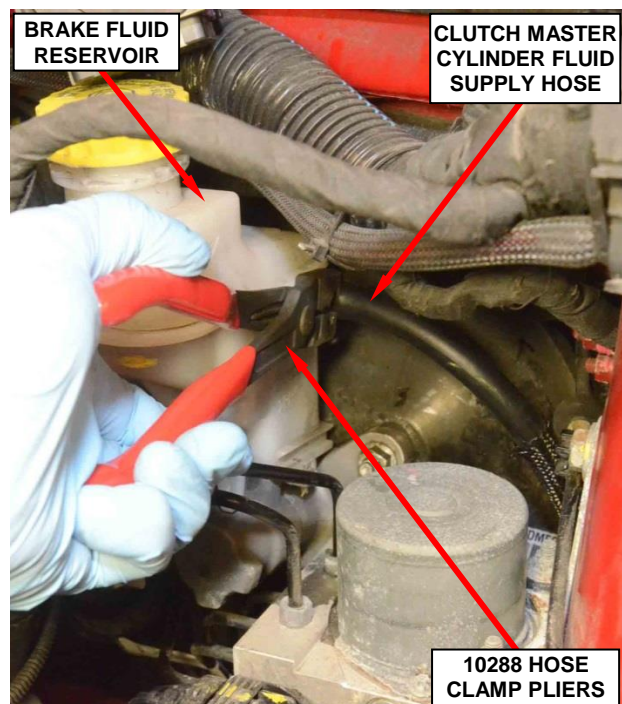

Figure 8 – Clutch Master Cylinder Fluid Supply Hose
18. Use special tool 10288 Hose Clamp Pliers to release the hose clamp then disconnect the clutch master cylinder fluid supply hose from the brake fluid reservoir and plug both openings (Figure 8).
46. Install the clutch master cylinder fluid supply hose with NEW clamp to the brake fluid reservoir (Figure 8).
47. Use special tool 10288 Hose Clamp Pliers to engage the NEW clamp securing the clutch master cylinder fluid supply hose to the brake fluid reservoir (Figure 8).